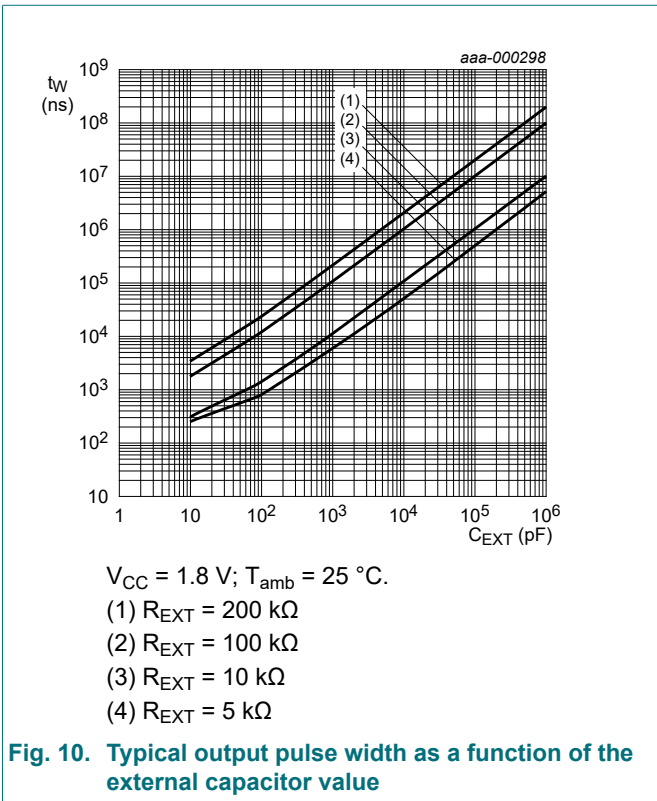

Fig. 10. Typical output pulse width as a function of the external capacitor value
- [3] For other REXT and CEXT combinations see Fig. 10, Fig. 11 and Fig. 12. If CEXT > 10 nF, the next formula is valid.